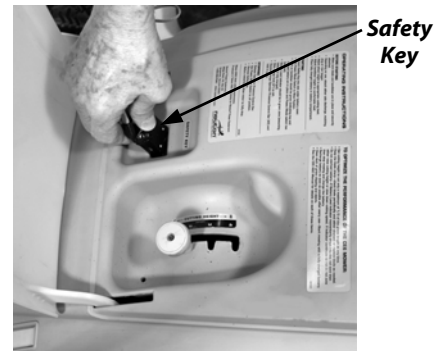

Figure 21
- **STARTING, STOPPING, AND RESTARTING AN ELECTRIC MOTOR REPEATEDLY WITHIN A FEW SECONDS CAN GENERATE A GREAT DEAL OF HEAT AND DAMAGE THE MOTOR. TO PROTECT THE LIFE OF YOUR NEUTON MOWER, ALWAYS WAIT AT LEAST FIVE (5) SECONDS AFTER STOPPING BEFORE RESTARTING THE MOWER.**
2. Insert the Safety Key into the Key Slot (**Figure 21**). You can insert the Safety Key either way. The green Status Indicator Light on the Lower Crossbar should come on.